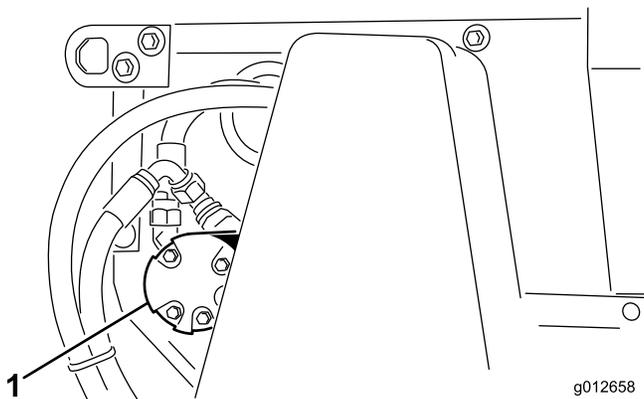

Figure 30
2. Loosen nuts securing brush motor (Figure 30) to left side of machine.